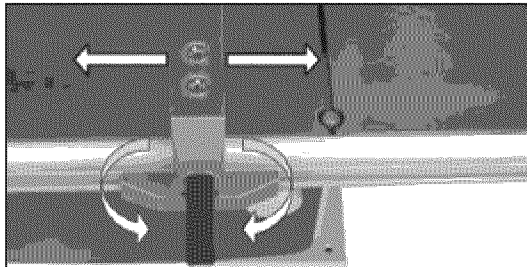

Figure 21 - Adjusting the Rip Fence
- Turn the fence handle clockwise to increase clamping pressure, counterclockwise to decrease clamping pressure (see Figure 21).
- After counterclockwise turning the fence handle, sliding the rip fence to the desired position on the guide rail (see Figure 21).